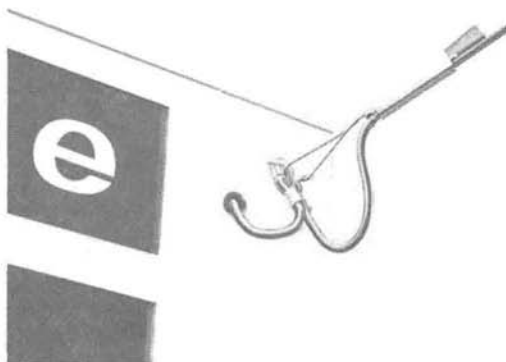
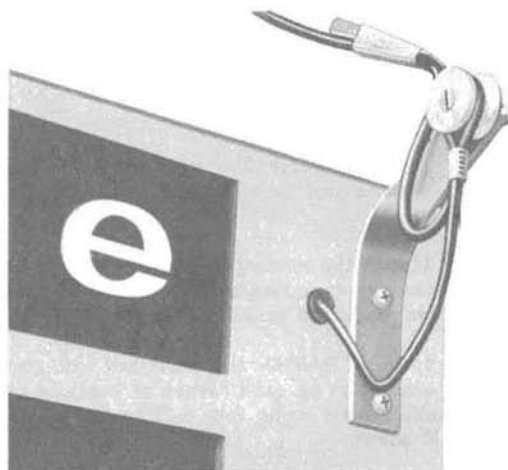

Fig. 15—Drop Wire Hook for First Attachment
Fig. 16—Corner Bracket for First Attachment
3.06 Attach drop wire hook (Fig. 15) or corner bracket (Fig. 16) (whichever is required) on right rear column adjacent to the entrance hole as follows:
- (1) Secure drop wire hook (Fig. 15) to clinch nut (provided with booth) using one 1/4-20 by 3/4 FHM screw, one 1/4-inch flatwasher and one 1/4-inch lockwasher.
- (1) Secure the corner bracket (Fig. 16) to the threaded clinch nut using one 1/4-20 by 3/4 Phillips RHM screw.
- (2) Using the bracket as a template, drill a clearance hole for another 1/4-inch screw.
- (3) Further secure the bracket to the booth using one 1/4-20 by 3/4 Phillips RHM screw, one 1/4-inch flatwasher, one 1/4-inch lockwasher, and 1/4-inch hex nut.